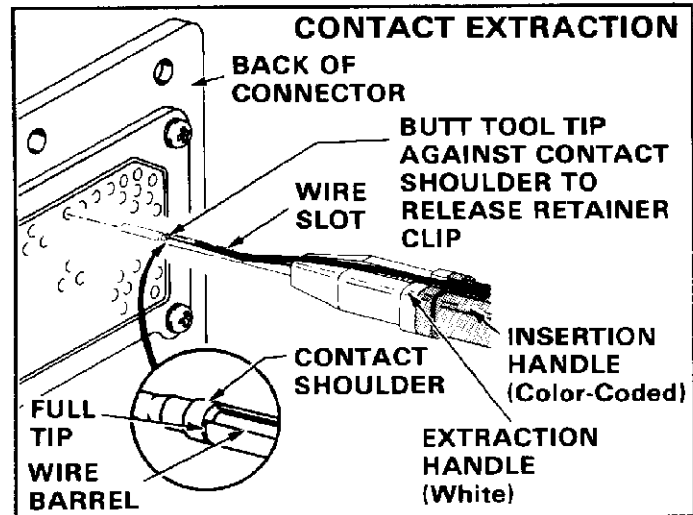

Fig. 10
B. Extracting Size 22, 20, and 16 Contacts (Figure 10)